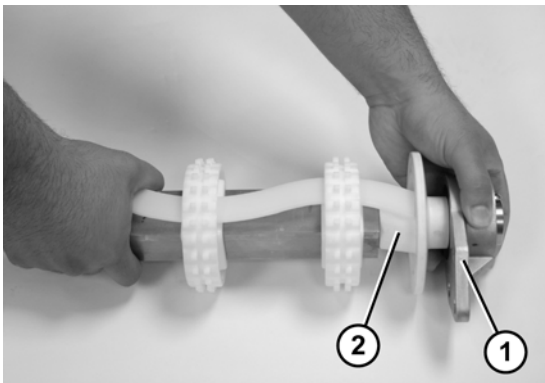

Figure 84
4. Attach the flanged pucks (**Figure 84, item 1**) and the 3 hole flange with bearing (**Figure 84, item 2**) to the drive spindle.